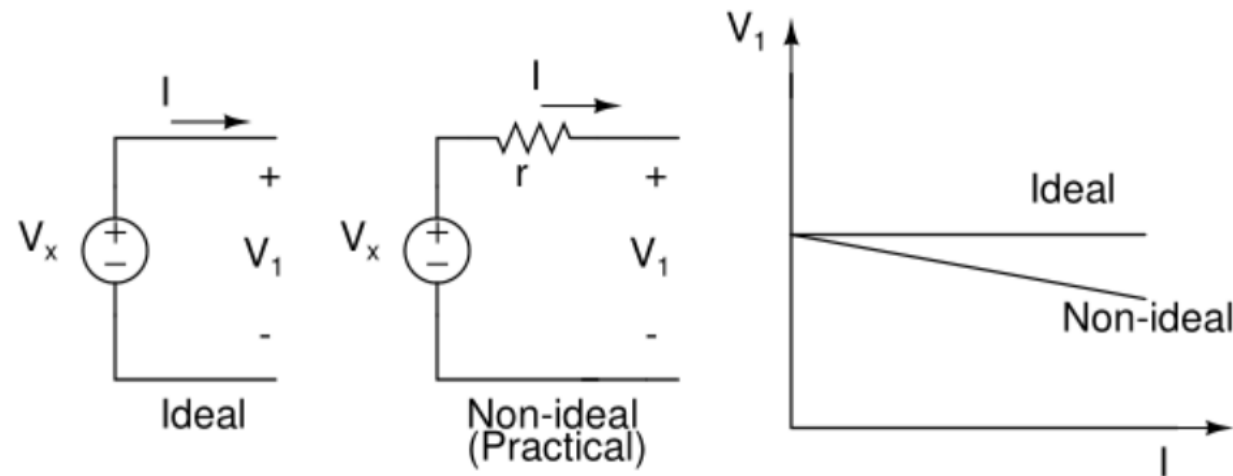

Fig. 3
- As the current supplied by it to a load increases, its terminal voltage progressively decreases (see Fig.3).